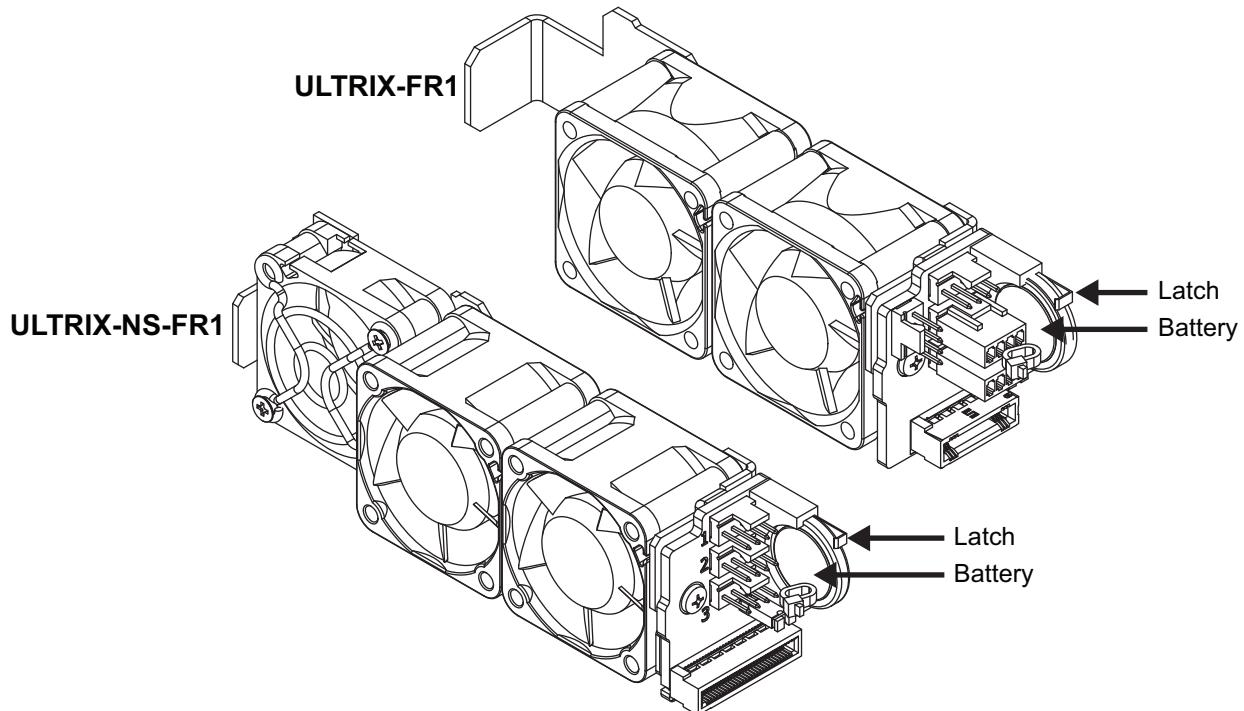

Figure 93 Battery Location inside the Cooling Fan Module — ULTRIX-FR1 and ULTRIX-NS-FR1
1. Locate and note the orientation of the failed battery inside the Cooling Fan Module. (Figure 93)